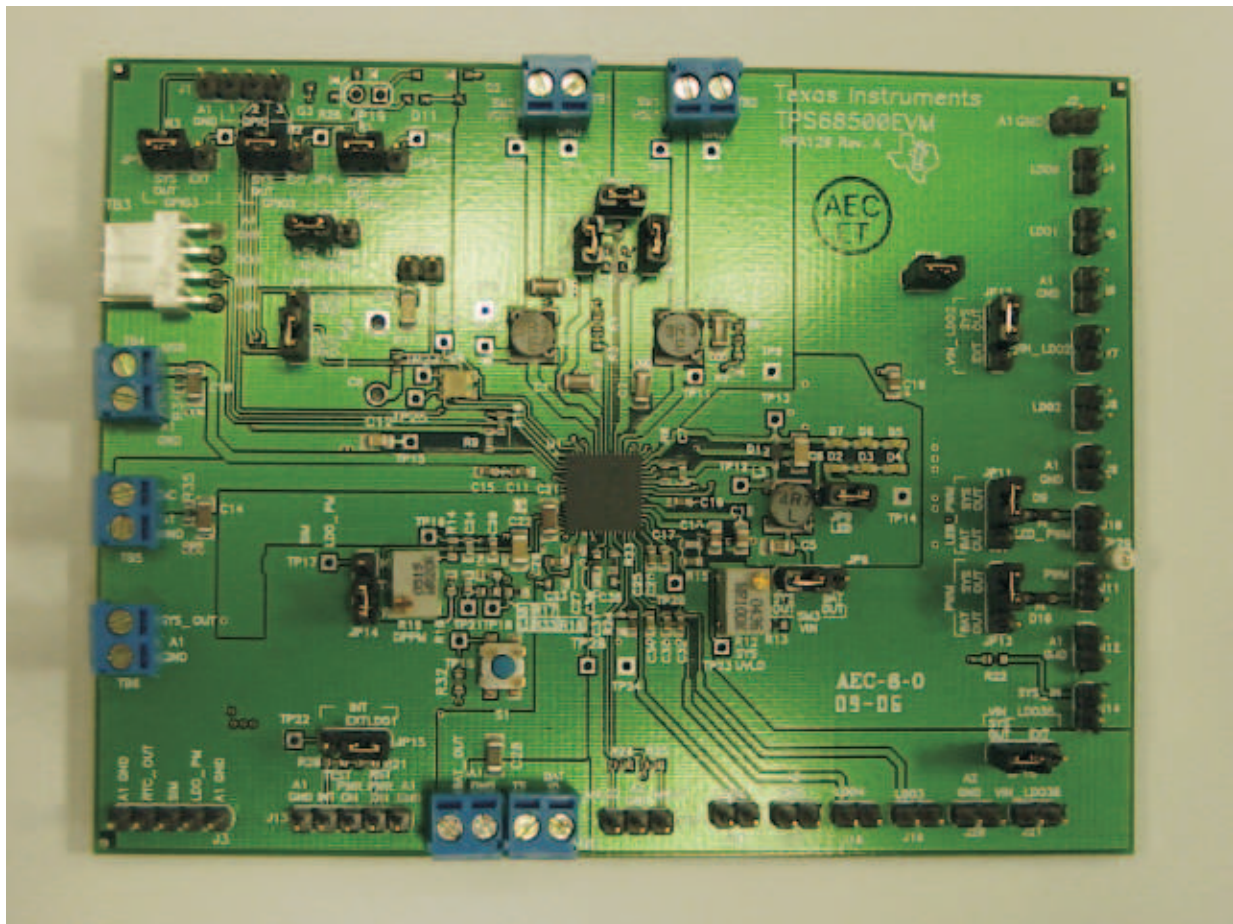

Figure 1. TPS65810EVM Assembly (Similar to Other Versions)
- (a) Verify that the jumpers are in the correct location. JP5/4/3/8/15/12/11/13/6/16 are to be set to SYS_OUT, JP7 to +5V, JP14 to RES, JP15 to LDO1, and JP12/17/18/9; apply jumper across the two pins. See Figure 1.